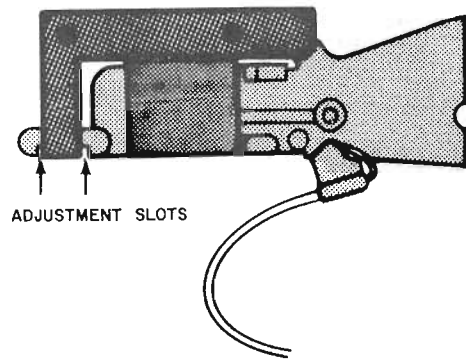

Figure 5-9. HEAD ADJUSTMENT
- b. Position a screwdriver at the point indicated in Figure 5-9, and manually move the head assembly in or out to obtain the correct alignment waveform.